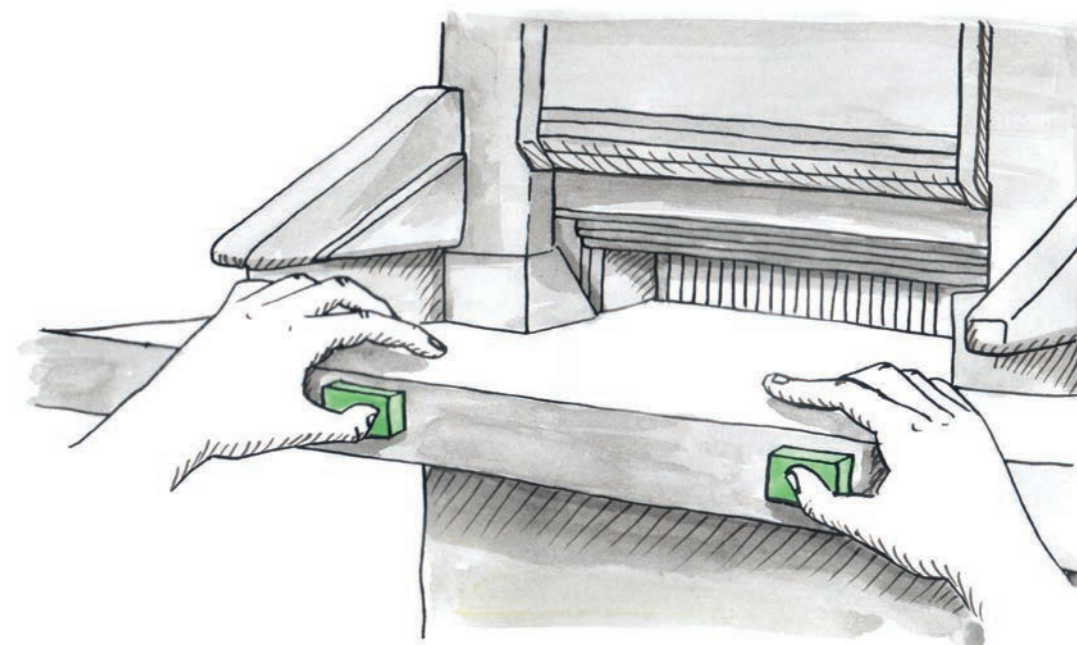
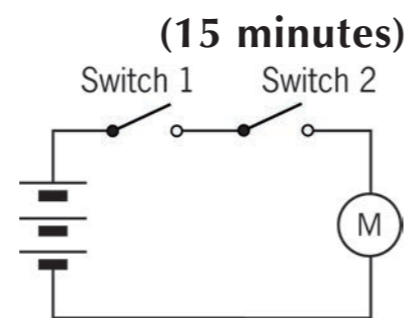

Figure 8: An electric paper-cutting machine
Figure 7: A circuit with AND-type control
The circuit in Figure 7 has AND-type control. Now let's see where people would use a circuit such as this one. Figure 8 shows an electric paper-cutting machine that is used to cut many sheets of paper simultaneously. An electric motor turns gears that press the blade of the machine down to cut the paper.
Look back at Figure 8, showing the electric paper-cutting machine. The operator has to press both switches to make the cutting blade move. So the circuit controlling the motor uses AND-type control.
2. Often designers look at circuits that have already been designed, to see whether any of those circuits will do the job. Look at Figures 7, 9 and 11 again. Which of these circuits will work? [1]